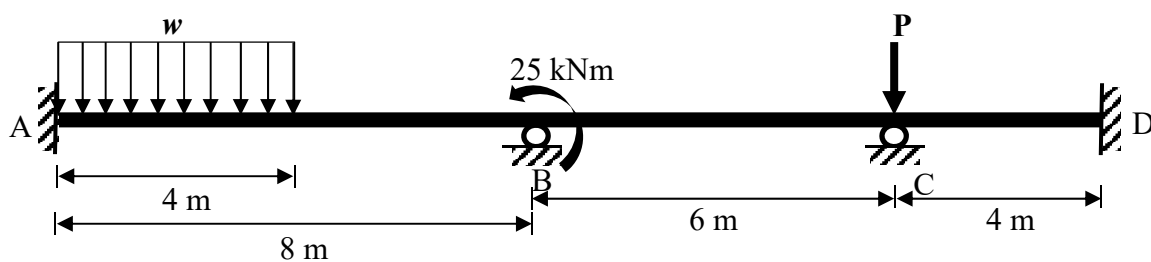

Figure 4/Rajah 4
3. **Figure 4** shows a beam carrying a uniformly distributed load of w on half of the span AB and a moment of 25 kNm at roller support B. The roller support at C is pushed downward 30 mm by the force P . Supports A and D are fixed. Assume EI is constant for the beam. Given that the $(FEM)_{BA} = 7.5$ kNm.